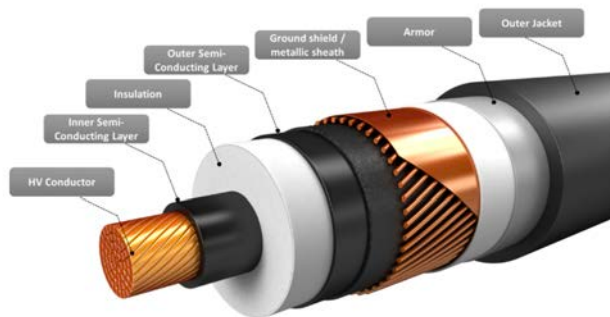
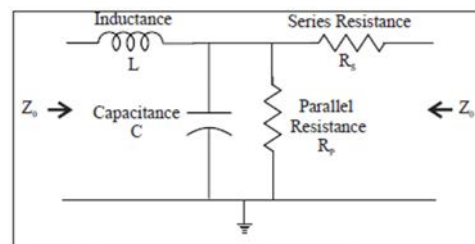

Figure 1. Cable Construction.
Figure 2. Equivalent circuit of good cable.
Underground medium-voltage cables are typically installed in one of three configurations: (1) separate insulated single conductors, (2) a twisted bundle of the insulated single conductors known as a triplex assembly, or (3) a covered three-conductor cable. In all cases, the insulated conductors share the same basic construction, as shown in Figure 1.
Figure 2 illustrates the electrical equivalent circuit of a healthy length of cable. In an ideal case with perfect insulation, the parallel resistance (R_p) would be infinite (effectively absent) and the insulation would behave as a pure capacitance (C). In reality, all insulation has some leakage, so a finite insulation resistance R_p is present. This is the resistance measured with a when performed insulation resistance testing, and the associated leakage current is what is monitored during a DC hipot test (as shown in Figure 1). Together, the cable's series resistance (R_s), inductance (L), capacitance (C), and parallel resistance (R_p) form the cable's transmission-line behavior, commonly expressed in terms of its characteristic impedance (Z_0).